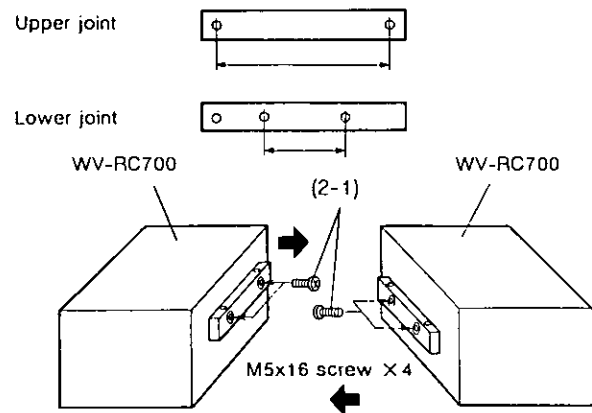

Fig. 2
- 2-1. Fix two RCU Jointing Bars (163) on the side of Remote Control Units by using four screws (M5×16, provided) as shown in Fig.2.